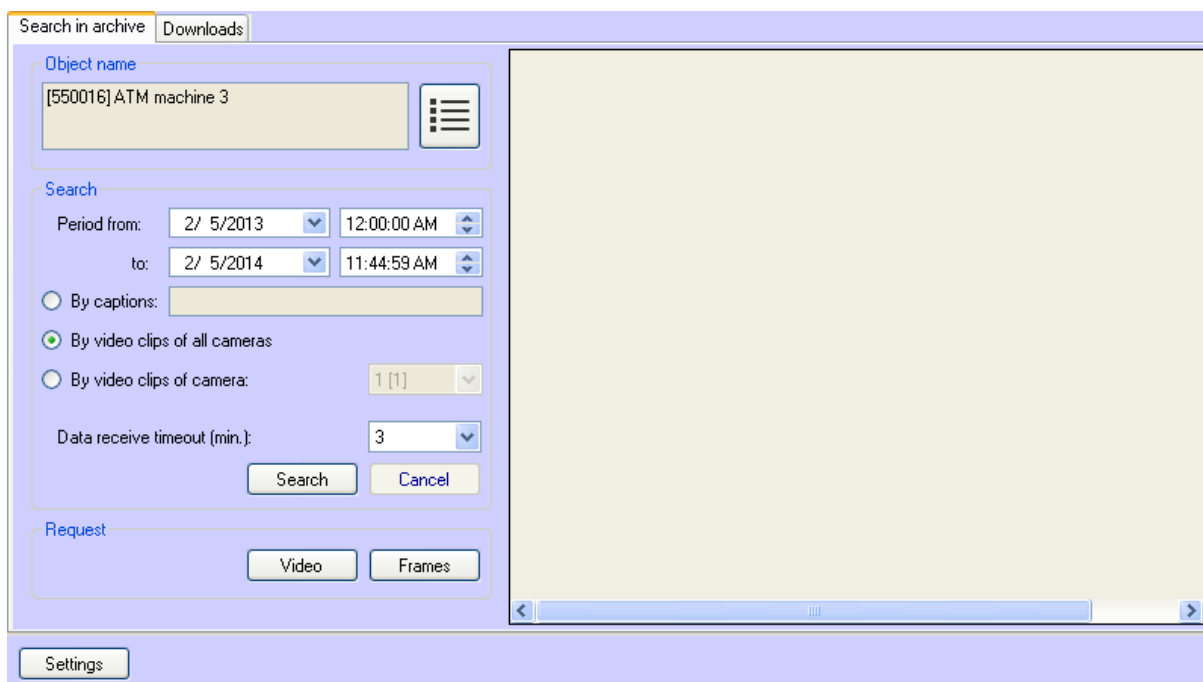

Fig. 5.3—1 Search by clips
1. Make sure that the **Search in archive** component is displayed (Fig. 5.3—1).